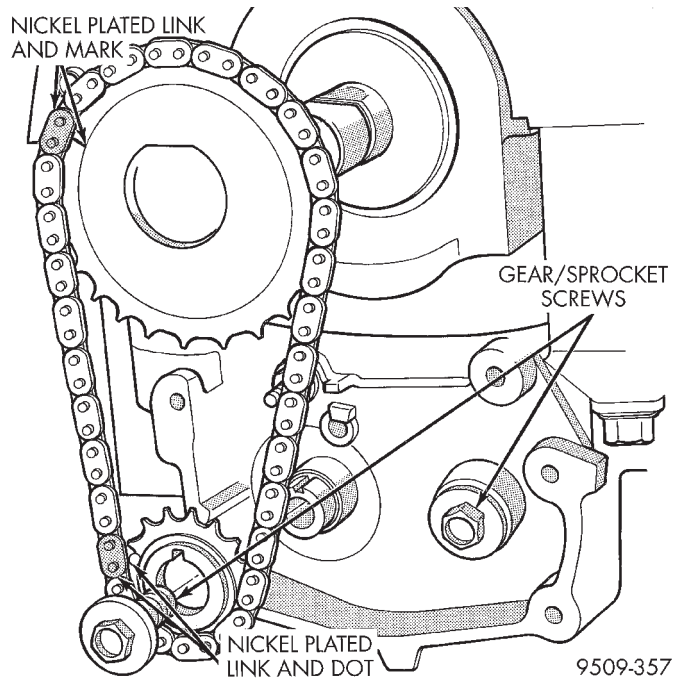

Fig. 41 Drive Chain and Sprockets
(4) Remove balance shaft gear and chain sprocket retaining screws and crankshaft chain sprocket. Remove chain and sprocket assembly (Fig. 41). Using two wide pry bars, work the sprocket back and forth until it is off the shaft.